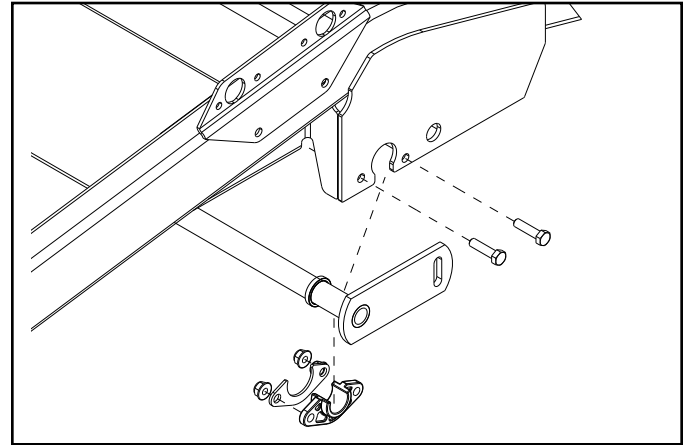

Fig. 040
2. Install the (4) pivot bushings, (4) gusset plates and (8) fasteners that secure the pivot rods to the frame. Torque the (8) fasteners to specification – 5 ft-lbs. (7 Nm) (Fig. 040).